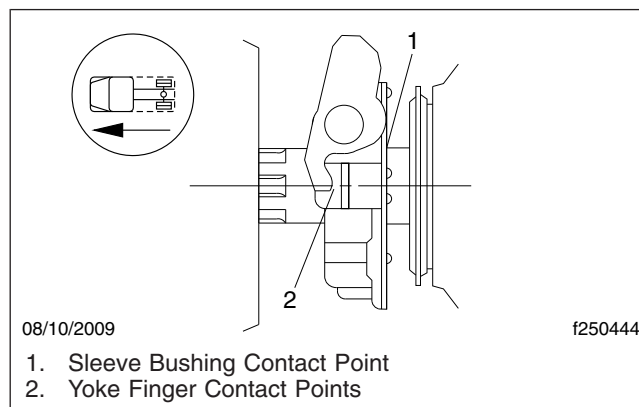

Fig. 2, Grease the Contact Points
4. Wipe off excess grease and apply to both the yoke finger and sleeve bushing contact points. See Fig. 2.
4. Wipe off excess grease, and apply it to both the yoke finger and sleeve bushing contact points. See **Fig. 2**.